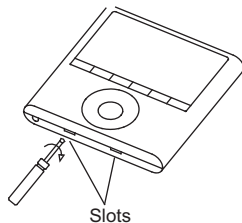

Fig. 5 — Slots
2. Remove the upper part of the wire controller (see Fig. 5).